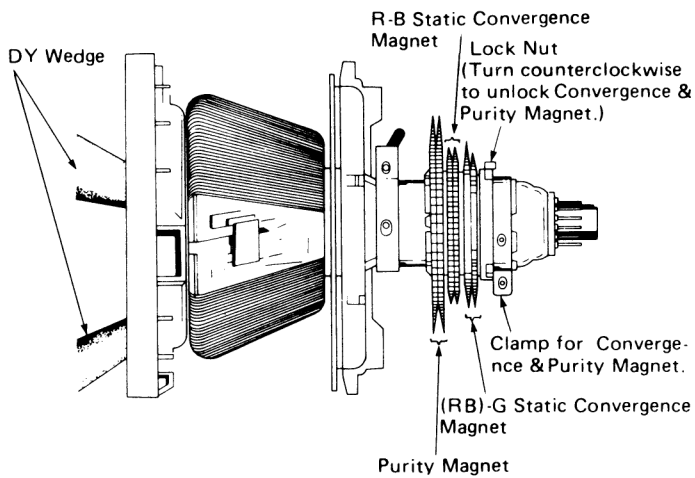

Figure 8
7. Loosen the purity magnet clamp (See figure 8) and adjust the purity magnet to set the vertical green raster precisely in the center of the screen. (See figure 5.) Tighten the clamp.
3. Loosen the convergence magnet clamp and align the red and blue dots at the center of the screen, by rotating the R-B Static Convergence Magnet. (See figures 8 and 9.)
4. Align the convergence red/blue dots with the green dots in the center of the screen, by rotating the (RB)-G Static Convergence Magnet. (See figures 8 and 9.)